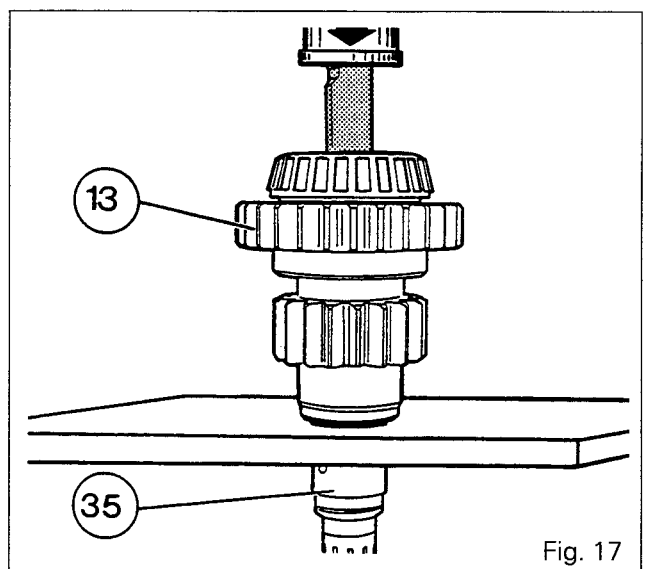

Fig. 17
106. Withdraw the pinion (13) and assemble on the shaft (35) (Fig. 17). Mount the washer (5) and bolt /6\ . Tighten to a torque of 50 Nm.